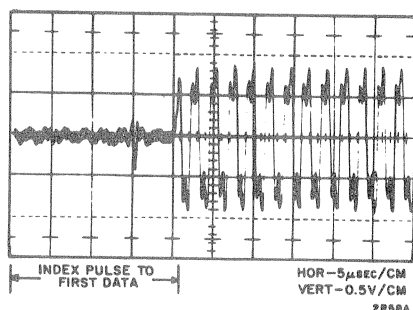

Figure 6-9. Index to Data Period
11. Record the oscilloscope period (as well as head and track) between Index pulse and the peak of the first data pulse, Figure 6-9.
15. Install the head plug adapter (46812200) between the head 0 cable plug and the head diode card connector. Set the maintenance panel OFF LINE/ON LINE switch to the OFF LINE READ 0. Record the oscilloscope period between the Index pulse and the peak of the first data pulse (Figure 6-9). The period should be approximately 48 usec.
29. Record the oscilloscope period between the Index pulse and the peak of the first data pulse (Figure 6-9).